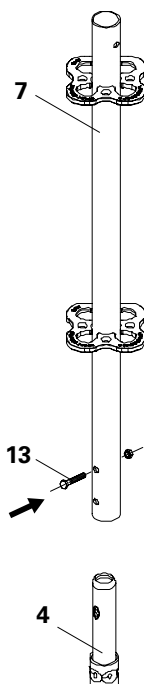

Fig. A2.8a
3. Tightly connect Standards UVR (4a/4b) and Base Standards UVB (2) using Bolts M10x80-8.8 and Nut (13). (Fig. A2.8a/A2.8b)